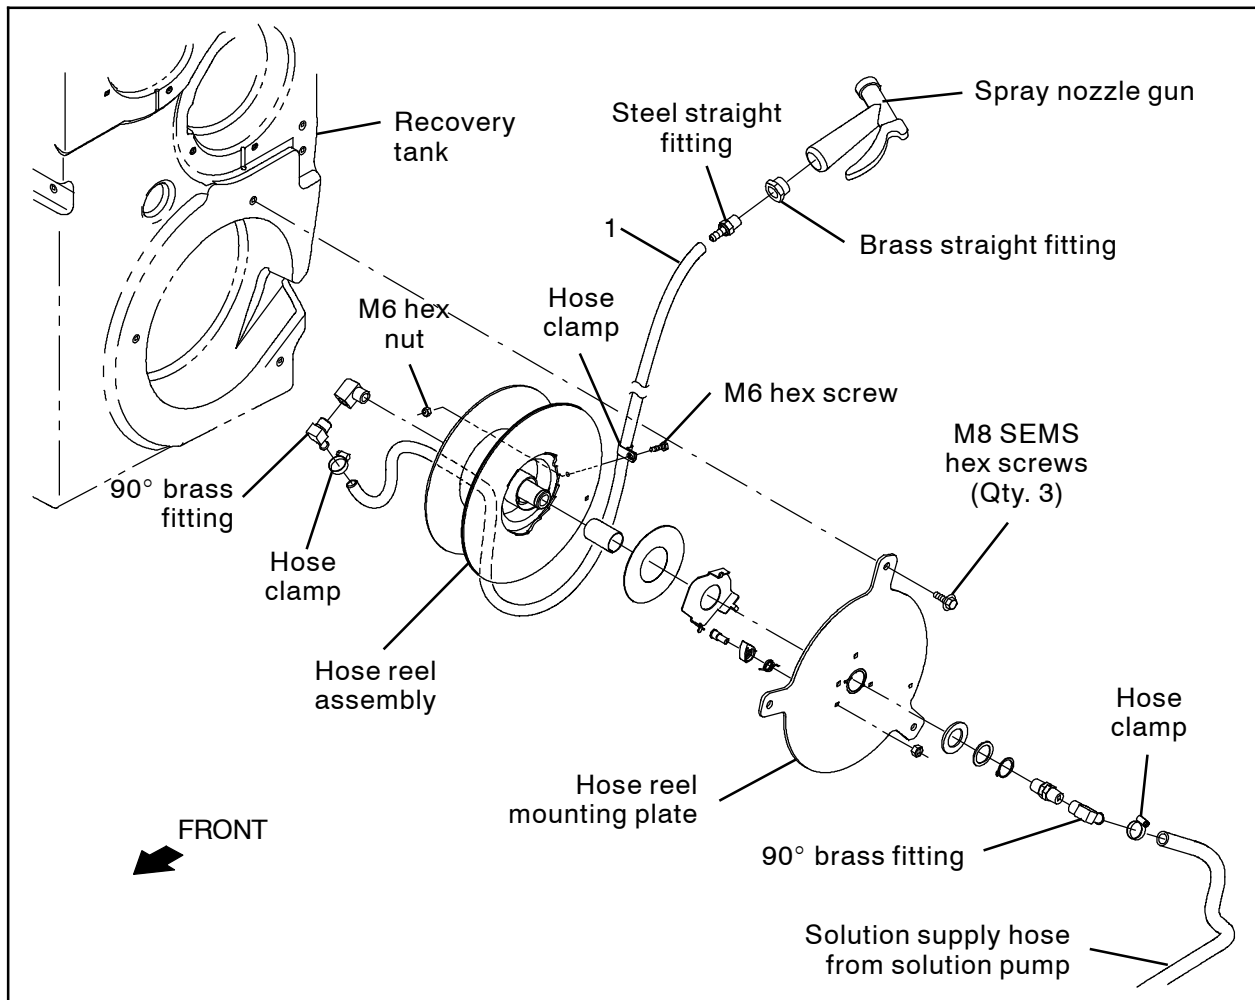

FIG. 1
1. Disconnect the solution supply hose from the spray nozzle assembly. Set the hose clamp aside. (Fig. 1)
2. Remove the spray nozzle assembly from the recovery tank. Set the three M8 SEMS hex screws aside. (Fig. 1)
3. Remove the hose clamp securing the spray nozzle hose to the hose reel assembly. Set the hose clamp, M6 hex screw, and M6 hex nut aside. (Fig. 1)
4. Disconnect the spray nozzle hose from the 90° brass fitting installed on the back of the spray nozzle assembly. Set the hose clamp aside. (Fig. 1)
5. Remove the spray nozzle gun, brass straight fitting, and steel straight fitting from the spray nozzle hose. Set the spray nozzle gun, brass straight fitting, and steel straight fitting aside. Discard the spray nozzle hose. (Fig. 1)
6. Install the spray nozzle gun, brass straight fitting, and steel straight fitting onto the new black rubber hose (1). (Fig. 1)
7. Use the hose clamp to connect the new rubber hose to the 90° brass fitting installed on the back of the spray nozzle assembly. (Fig. 1)
8. Use the hose clamp, M6 hex screw, and M6 hex nut to secure the black rubber hose (1) to the hose reel assembly. (Fig. 1)
9. Wind the black rubber hose (1) completely onto the reel and rotate the spray hose assembly mounting plate three complete turns to set the spring tension for the spray hose assembly. (Fig. 1)
10. Use a zip tie to secure the black rubber hose (1) onto the hose reel assembly so the spray hose assembly remains under tension when the spray hose assembly is reinstalled onto the recovery tank.
11. Use the three M8 SEMS hex screws to reinstall the spray nozzle assembly onto the recovery tank. (Fig. 1)
13. Use the hose clamp to reconnect the solution supply hose to the 90° brass fitting installed on the front of the spray nozzle assembly. (Fig. 1)
14. Pull the black rubber hose (1) out from the spray nozzle assembly and allow the hose to reel back into the spray hose assembly. If the hose does not reel completely back into the spray nozzle assembly, or reels back slowly, proceed to the Steps 15 through 18 to add tension to reel the spray nozzle hose back into the spray nozzle assembly.
15. Pull the black rubber hose (1) out from the reel assembly until the reel assembly has turned at least three revolutions, adding tension to the spring inside the reel assembly.
16. Remove the three M8 SEMS hex screws securing the spray hose assembly into place and pull the spray nozzle assembly out enough to wrap the hose onto the hose reel assembly. (Fig. 1)
17. While holding the spray nozzle assembly out from the the recovery tank, wrap the portion of black rubber hose (1) pulled from the reel assembly back onto the hose reel assembly.
18. Reinstall the three M8 SEMS hex screws to secure the spray hose assembly into the recovery tank. (Fig. 1)